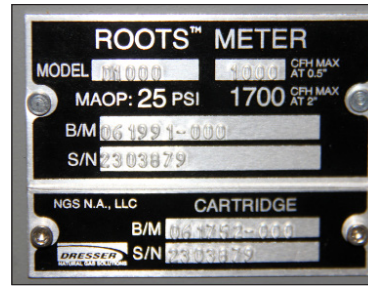

Figure 16.19 Example - Change cartridge nameplate
9. Change the cartridge nameplate since cartridge is replaced. Please use a 3/32" Allen wrench to change out the nameplate. Refer to Figure 16.19 Example. **Note:** On new meters, the cartridge badge is attached to the "ROOTS Meter" badge. The badge is scored so the "CARTRIDGE" portion of the badge will break off when bent.